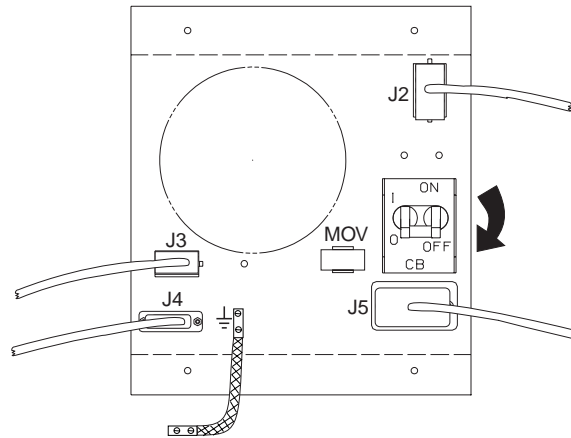

Figure 4-4. AC Power
1. \_\_\_\_ Ensure that the customer's branch circuit breaker which feeds the power supply is in the **OFF position**, and that CB is switched to **OFF** at the rear of the 2220 ac power supply (see Figure 4-4).